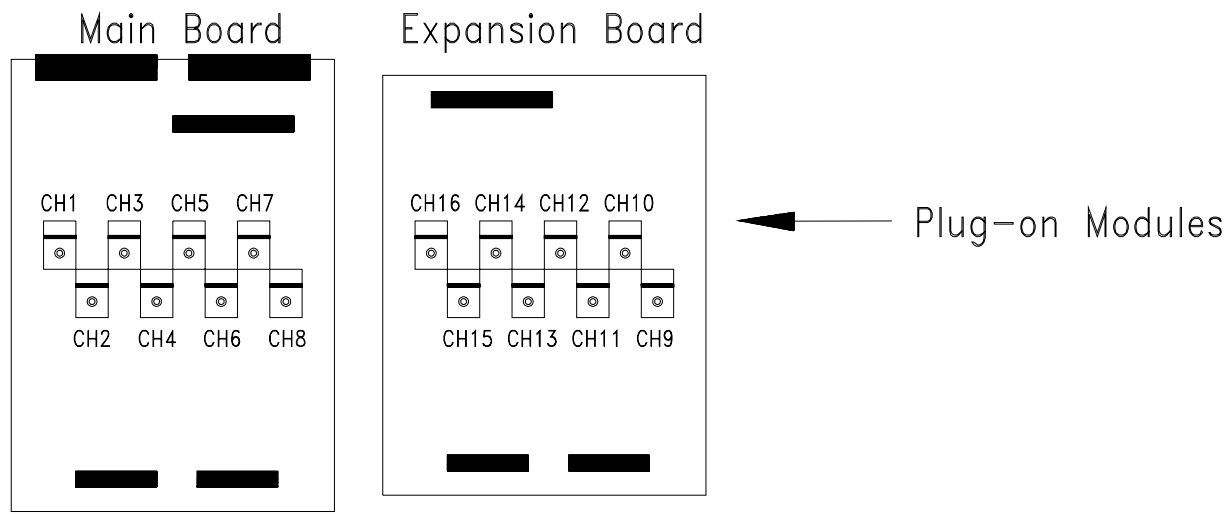

Figure 6-3. Plug-on Channel Locations
3. The main board and expansion board each have 8 plug-on assemblies. To remove the plug-on assemblies, remove the T-10 Torx screw securing the plug-on assembly. Lift the plug-on assembly off the electrical connector. The plug-on assembly locations are shown in Figure 6-3.